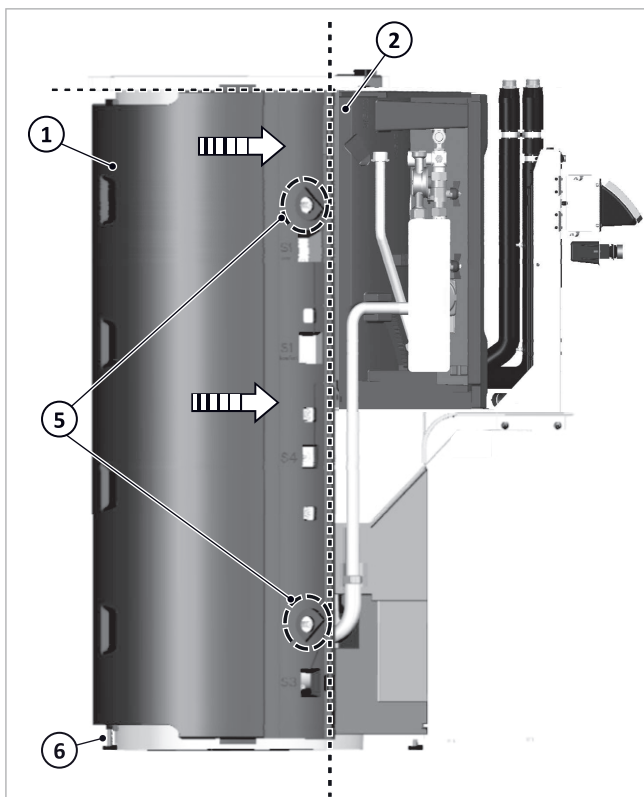

Fig. 15: Positioning the rear tank insulation
3. Use the angled washer (3) and screw (4) to fasten the tank insulation onto the tank at the top and bottom → fig. 15 (5).
- Align the straight top end of the rear tank insulation → fig. 15 (1) with the station insulation (2)
- level on the vertical to the station insulation → fig. 15 (2) and to the flange insulation.
6. Turn out the foot → fig. 15(6) until it reaches the floor.